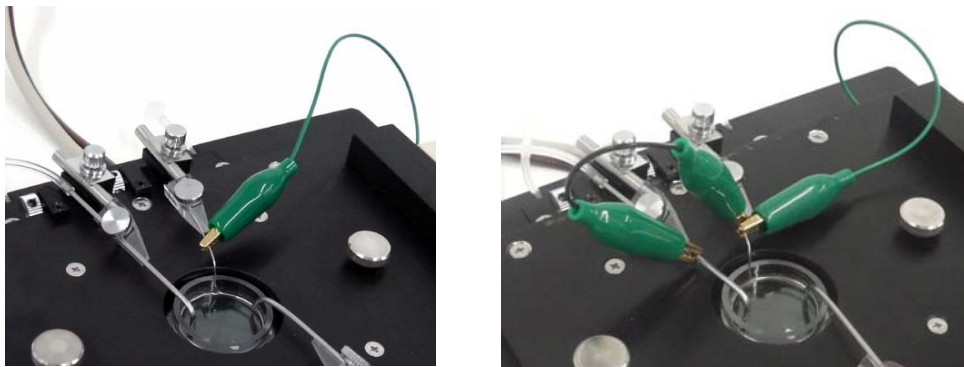

Figure 23. Grounding the Ref. Electrode to the MED Heated Connector.
8. Ground the Ref. Electrode to the top unit of the MED (Heated) Connector (Figure 23). **This grounding is necessary to let the Ref. Electrode to work as a reference electrode.** If the Ref. Electrode is not grounded, large noise will be present in the recordings.
Make sure for the Ref. Electrode sits on the bottom of MED Probe covered by solution, and doesn't move. If perfusion noise is still observed with this grounding, ground the Ref. Electrode (platinum wire) to the inlet pipe (Figure 23, right).